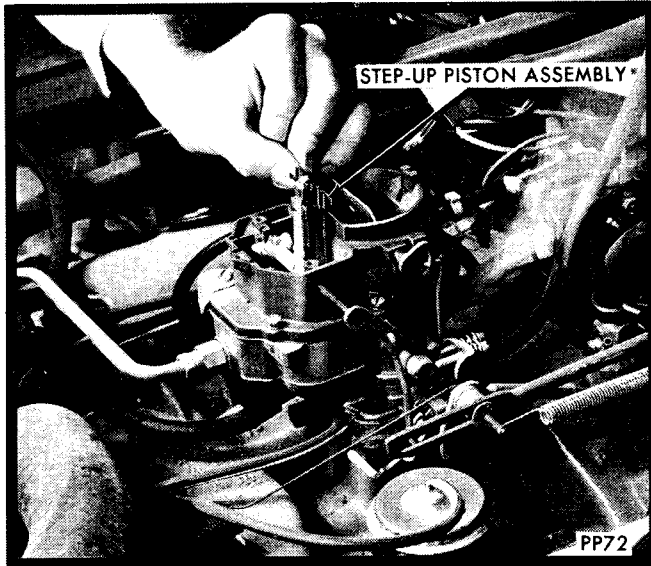
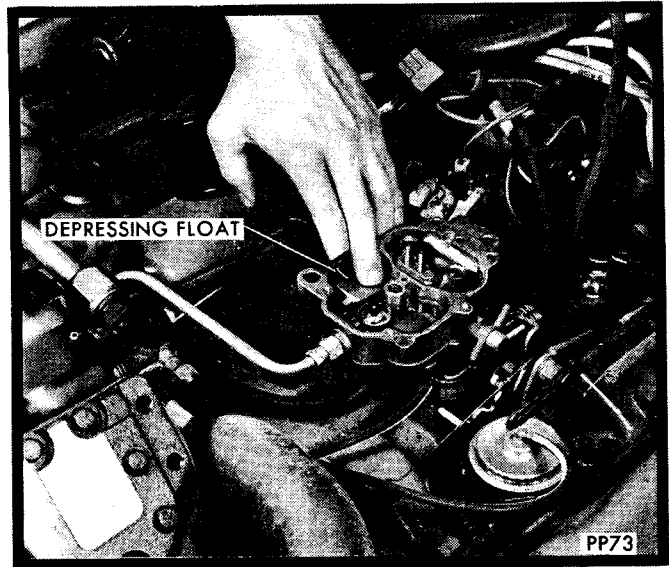

Fig. 1—Removing or Installing Step-Up Piston Assembly
Fig. 2—Overfilling Fuel Bowl
- (8) Remove metering rod lifter lock screw.
- (9) Lift step-up piston and metering rod assembly straight up and out of the air horn. (Fig. 1).
- (10) Remove air horn retaining screws and lift air horn straight up and away from main body.
- (11) Remove float baffle.
- (12) Overfill the float bowl by depressing the float manually or from an external supply to within 1/4 to 3/8 inch from the top of the fuel bowl. This will provide adequate inlet needle screwing force (Fig. 2).
- (13) Using two wrenches, back off flare nut and tighten inlet fitting to recommended torque (200 inch-pounds).